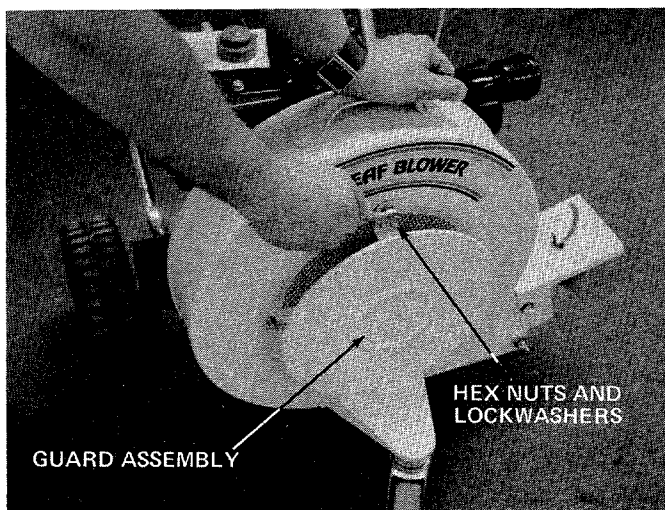

FIGURE 11
1. Remove the guard assembly by removing four hex nuts and lock washers. See figure 11.